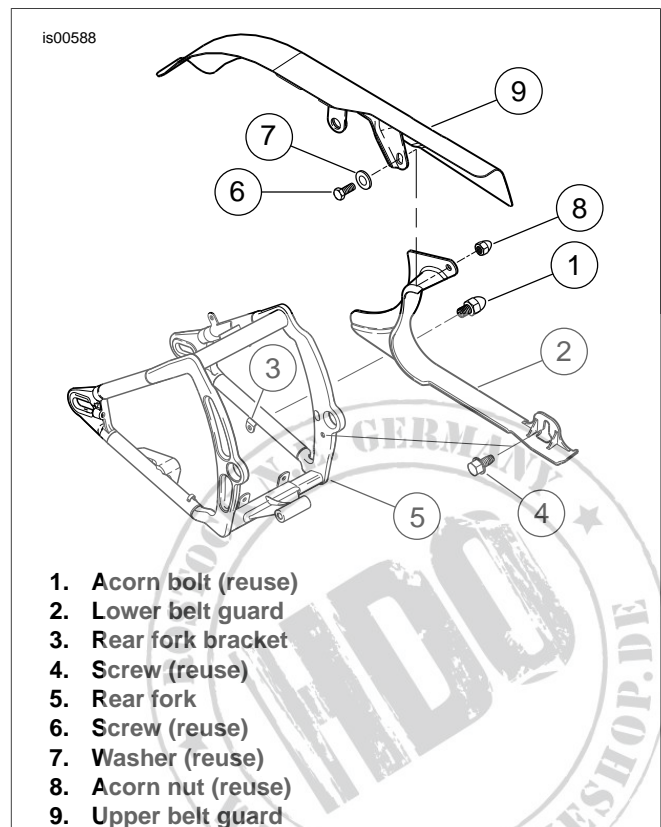

Figure 2. Stock Lower Belt Guard
2. See Figure 2. Remove acorn bolt (1) from lower belt guard (2) and rear fork bracket (3). Save acorn bolt for later use.
3. Remove screw (4) that mounts rear fork (5) to front (slotted) portion of lower belt guard. Save screw for later use.
4. Hold screw (6) and washer (7) with wrench to remove acorn nut (8). Then remove screw and washer that attaches lower and upper belt guards (2, 9). Save hardware for later use.
5. Remove original equipment lower belt guard (2) from rear fork.